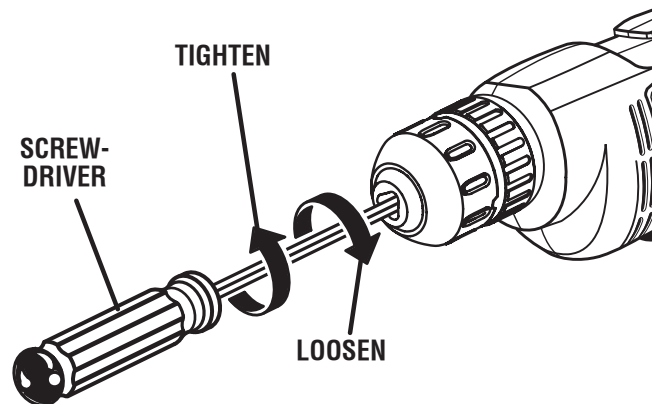

Fig. 11
- Open the chuck jaws and remove hex key. Remove the chuck screw by turning it in a clockwise direction. See Figure 11.